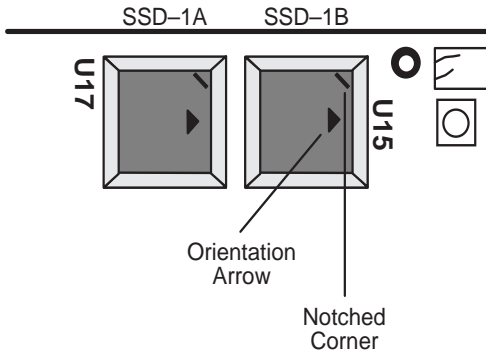

Figure 3-1 PLCC Orientation
1. Install the first 256K flash directly into SSD1A and the second (if applicable) into SSD1B making sure to align the notched corner of the flash with the notched corner of the socket (see Figure 3-1).